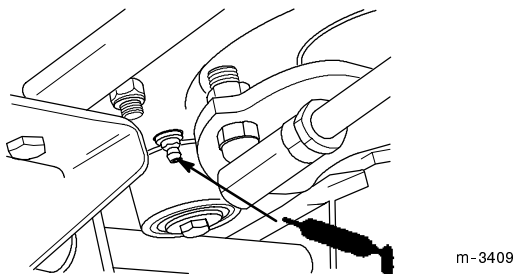

Figure 40
7. If your tractor has manual steering, put one pump of grease into the steering housing (from underneath the frame) (Fig. 40).